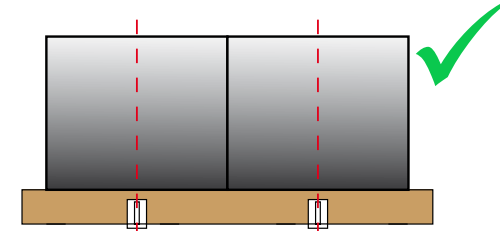

Fig.3.5: Coil racks **MUST** be aligned with the centre of each coil when loaded two abreast.
- Use two coil racks aligned with the centre of each coil, extra coil racks can be used for extra support, if required. (Fig.3.5)